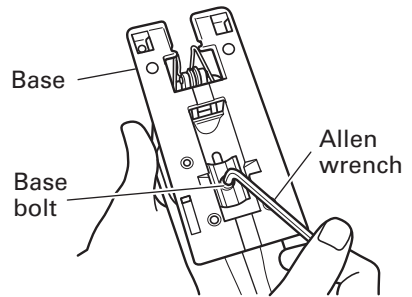

Fig. 11
- (1) Loosen the base bolt allen wrench attached on base. (Fig. 11)
NOTE: To ensure accurate cutting when using the Guide (Fig.11), always set the orbital position to "0".
- (1) Loosen the base bolt by allen wrench attached on base and move the base fully forward. (Fig. 11, 12)
- (3) Tighten the M5 bolt again. (Fig. 11)
- (4) Set the orbital position to "0".
- (1) Remove the allen wrench from the base.
- (2) Move the base fully forward. (Fig. 11, 12)